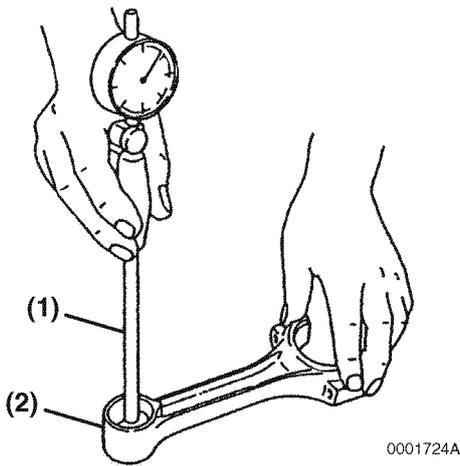

Figure 6-69
1. Measure the wrist pin bushing bore using a bore gauge (**Figure 6-69, (1)**). Replace the bushing if not within specifications. If the bushing has been removed, measure the inside diameter of the connecting rod small end (**Figure 6-69, (2)**). Record the measurements. See *Connecting Rod on page 6-11 for specifications*.